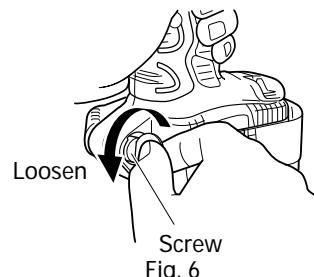

Fig. 6
- Securely hold the main unit and remove the screw using a slotted head screwdriver or a coin (Fig. 6).
- Install the hook and spring on the other side and securely fasten with screw (Fig. 6).